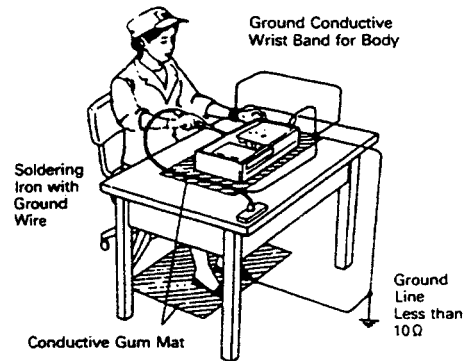

Fig. 3
1. Remove the CD mechanism assembly by referring to the "EXPLODED VIEW II" on page 72 (See Fig. 3).